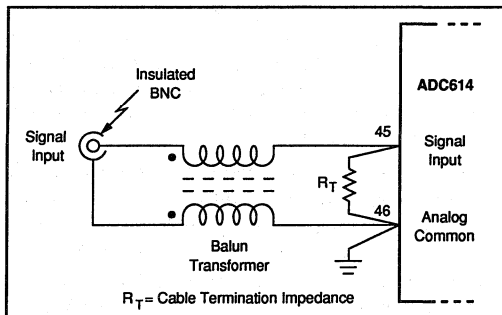
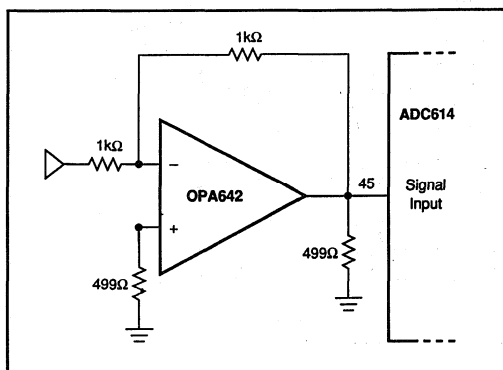

FIGURE 6. Floating-Input Balun Transformer.
FIGURE 8. Single Ended Input Amplifier (Gain = -1V/V).
9. Floating inputs can eliminate ground-loop noise. A simple common-mode choke shown in Figure 6 and 7, or a single-ended amplifier (Figure 8 and 9) can be used for gain. Optimized harmonic performance can only be achieved with a very low distortion buffer. Burr-Brown OPA642 is an ideal op amp for driving the ADC614.